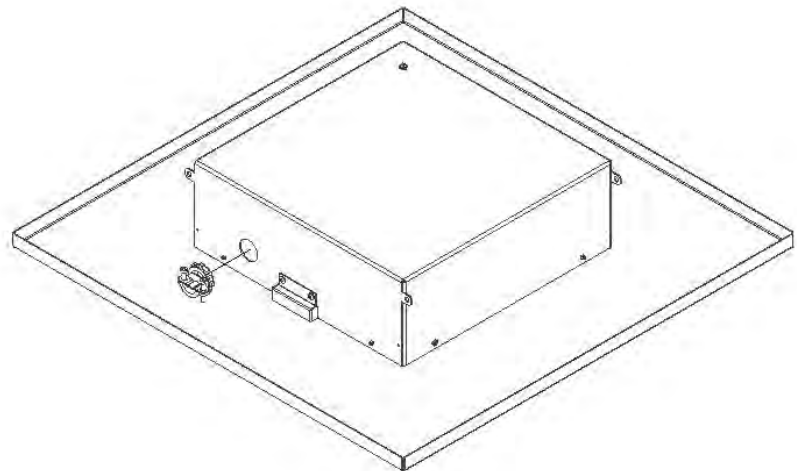

Figure 1
Step 1 – Place the *ceiling enclosure assembly* on the work surface with the keyed doorway unlocked. Remove hole knock outs located on the outside edge of the back box to install conduit connectors. Install one conduit connector if using P.O.E. or install 2 conduit connectors if bringing in power and Ethernet and power separately (Figure 1).